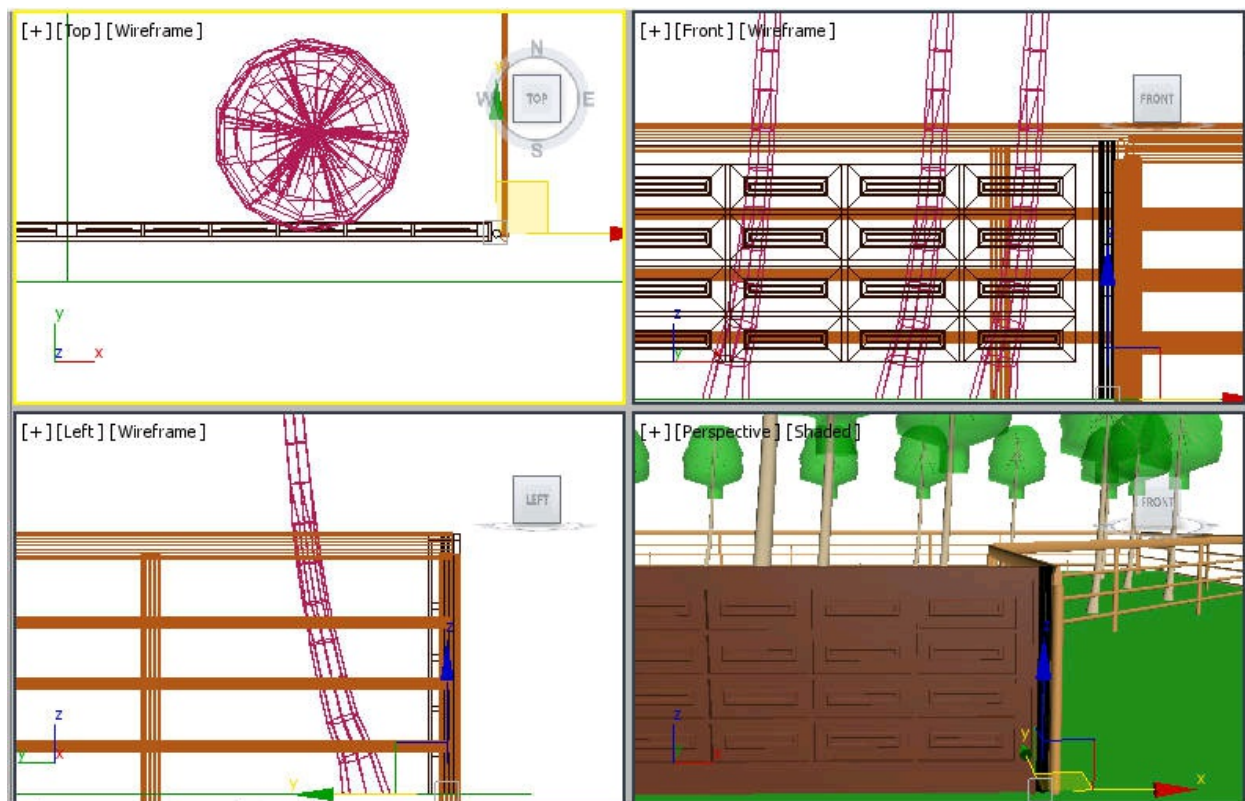

Figure 4-67 The rod2 geometry aligned in viewports
14. Create a copy of *rod1* as done earlier and align it, as shown in Figure 4-67.